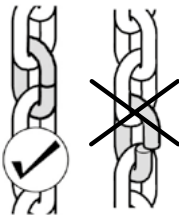
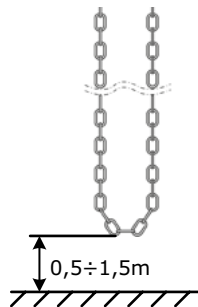

Figure 5
Figure 6
- the chain should be assembled and disassembled using special links (fig. 5). The edge of the chain of the emergency manual control when assembled should be at a height of 0.5~1.5 meters (fig. 6). If necessary, shorten the chain. The maximum length of the chain in an installation kit is 10 m. If the length of the chain is not sufficient, then it is necessary to purchase a chain of the required length.